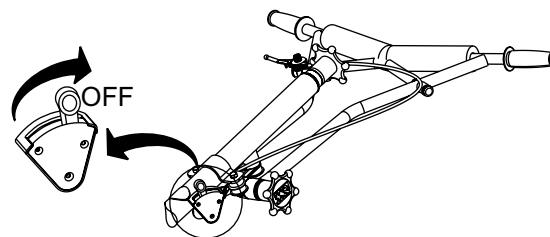

**Figure 25. Choke Lever Closed**
6. If the engine has started, slowly return the choke lever (Figure 25) to the **CLOSED** position. If the engine has not started repeat steps 1 through 5.